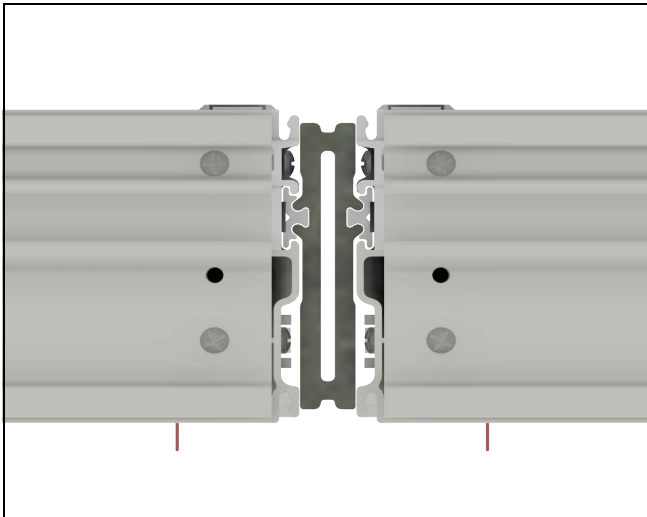

Figure 3
1. Set the units to be mulled close together and slide the mull T slot connector down the nailing fin channel on both units. If necessary pound the connector in with a rubber mallet or plastic hammer. See Figure 3.